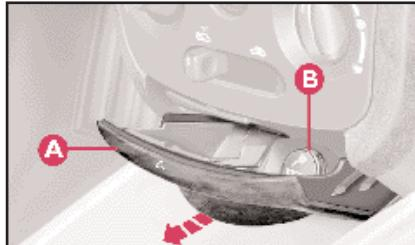

fig. 60
1) Open flap A (fig. 60) in the direction of the arrow to reach the cigar lighter and the ashtray.